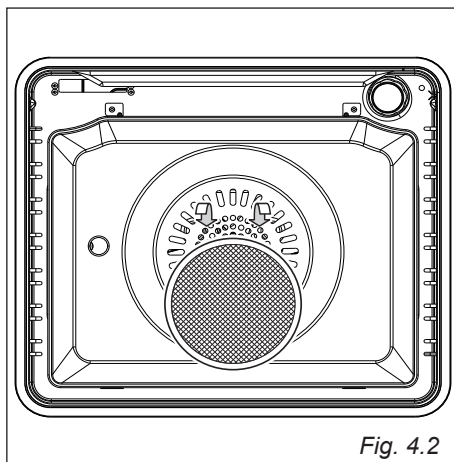

Fig. 4.2
- A special screen is provided at the back of the oven to catch grease particles, mainly when meat is being roasted. Slide in the grease filters on the back of the oven as in fig. 4.2.